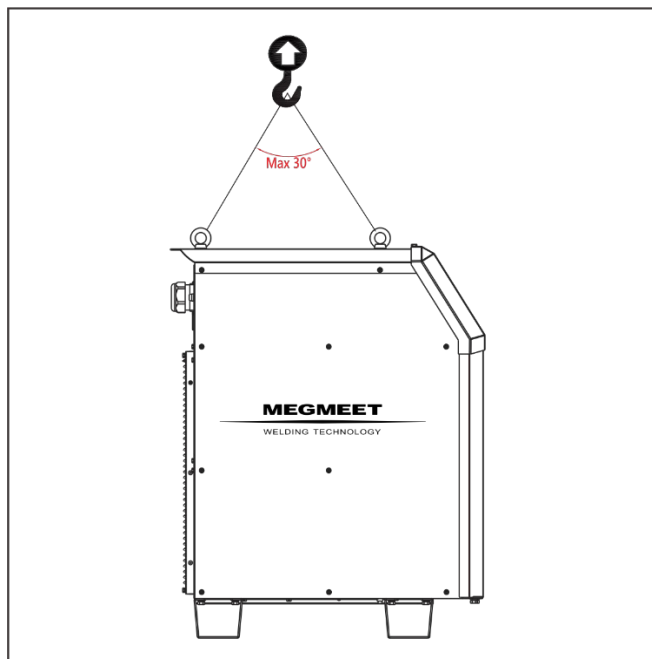

Figure 2-1 Welding machine hoisting diagram
3. When hoisting the welding machine, please use the lifting ring to install the crane, and use 2 slings, and the angle of the sling must be less than 30 degrees. As shown in Figure 2-1.